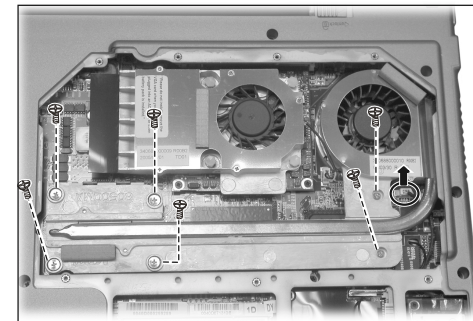

Figure 2-5 Free the heatsink
3. Remove the four spring screws and two screws that secure the heatsink upon the CPU and disconnect the fan's power cord from the system board. (Figure 2-5)